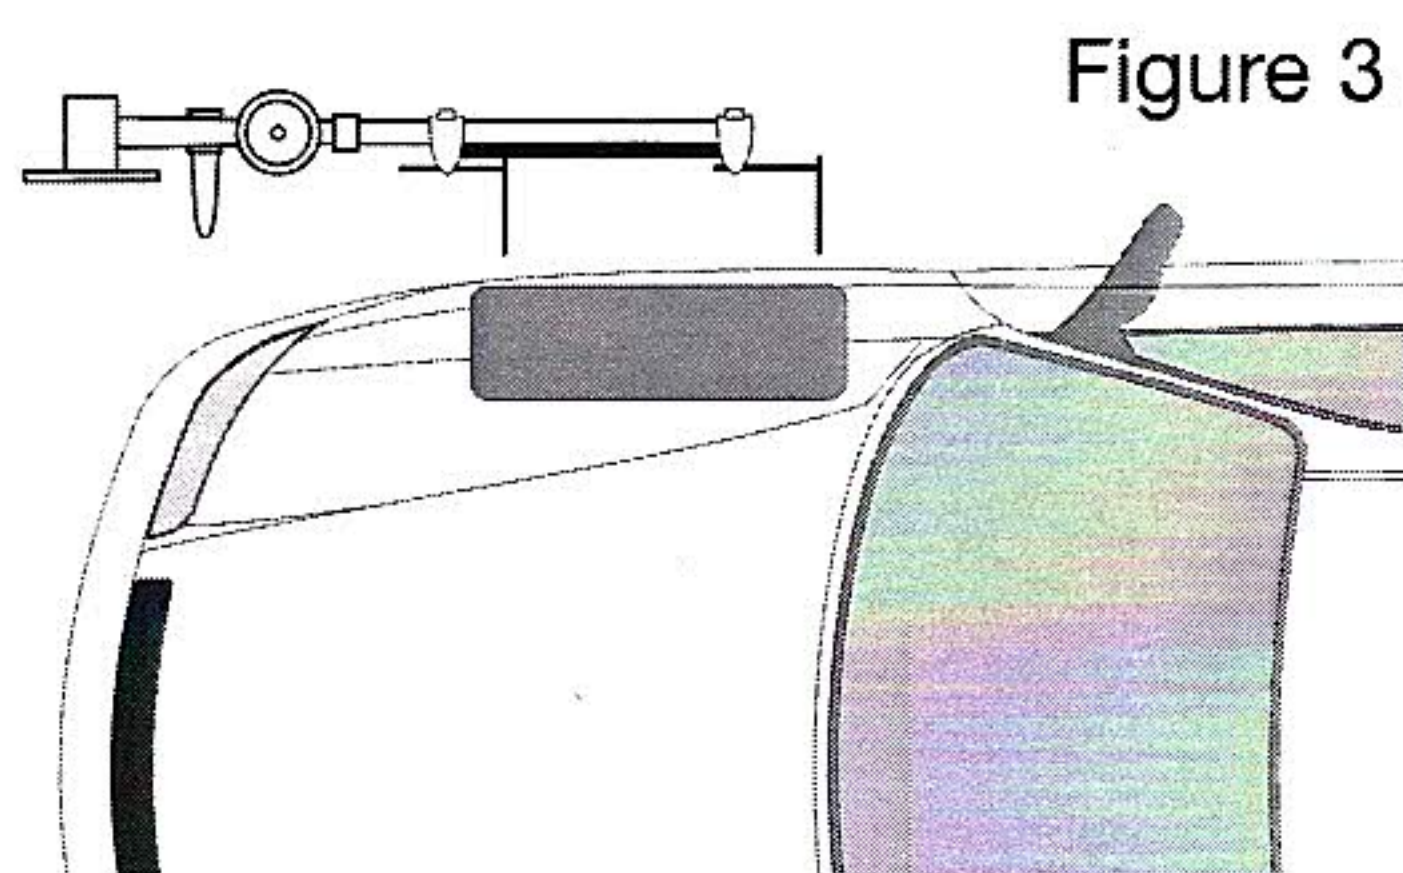

Figure 3
- Place contact bars of laser unit up against the sidewall of the right hand front tyre. Position as close to the centre of the sidewall as possible, avoiding any lettering or ribs (see Figure 3).